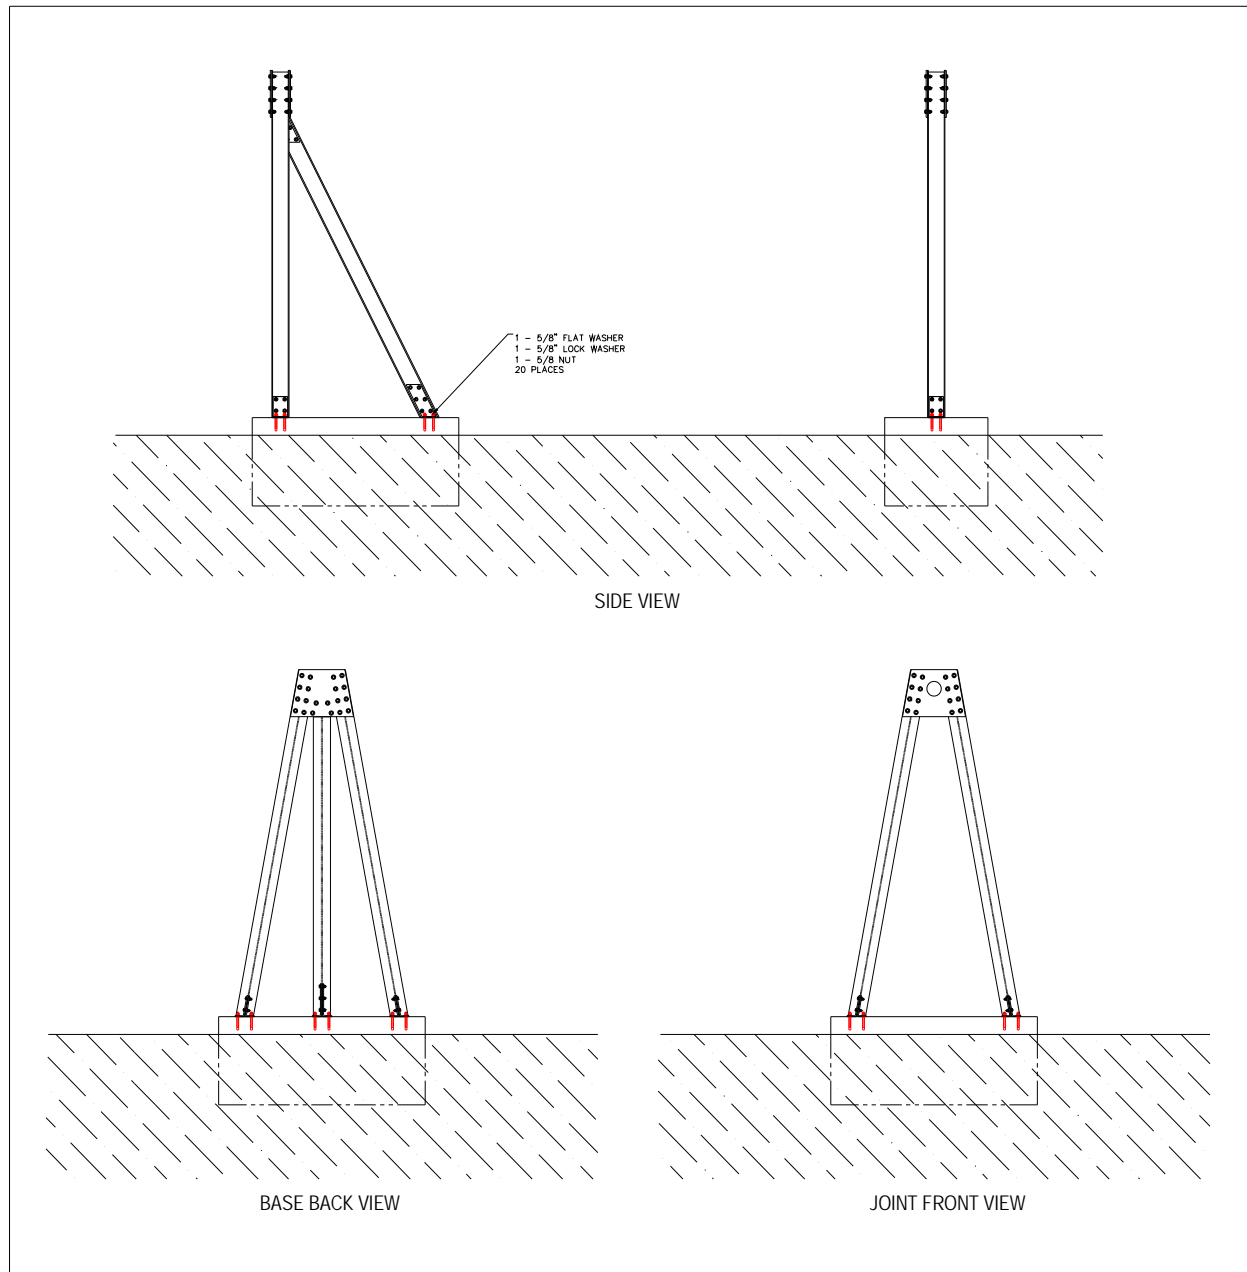

Figure 4-11 Assembly step 13
- (13) Raise the three-legged assembly onto the foundation and loosely fasten the clips to the 5/8" anchor bolts in the concrete. Raise the two-legged assembly onto the foundation and loosely fasten the clips to the 5/8" anchor bolts in the concrete. Refer to Figure 4-11.